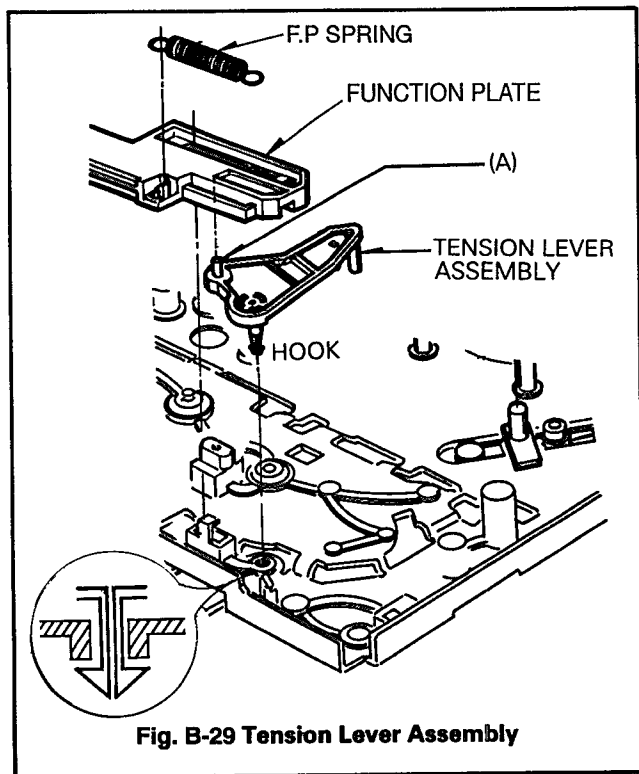

Fig. B-29 Tension Lever Assembly
- 1) When reassembling, the groove of Lower part of Function Plate should be aligned with the shaft of Tension Lever Assembly (Fig. B-29).
29. Tension Lever Assembly(Fig. B-29)